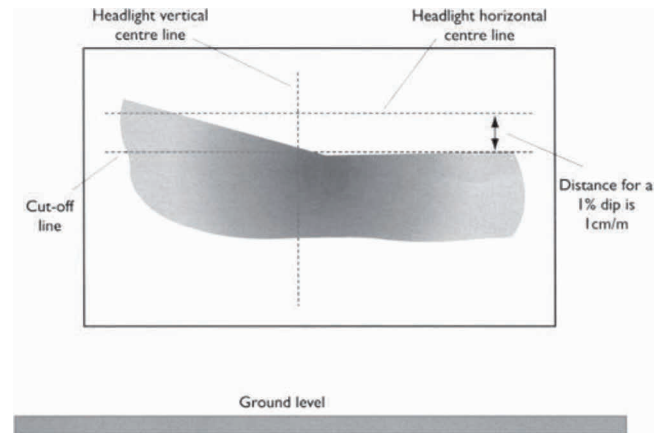

Figure 8.32 Asymmetric dip beam pattern.
2. Mark out the aiming board as shown in Figure 8.32.